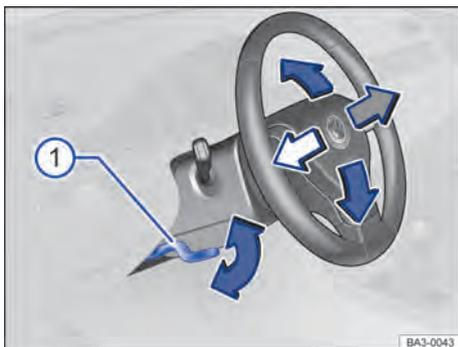

Fig. 59 Below and to the left of the steering wheel next to the steering column trim: steering wheel position adjustment lever.
- Push the lever down, holding it by the handle → Fig. 59 ①.